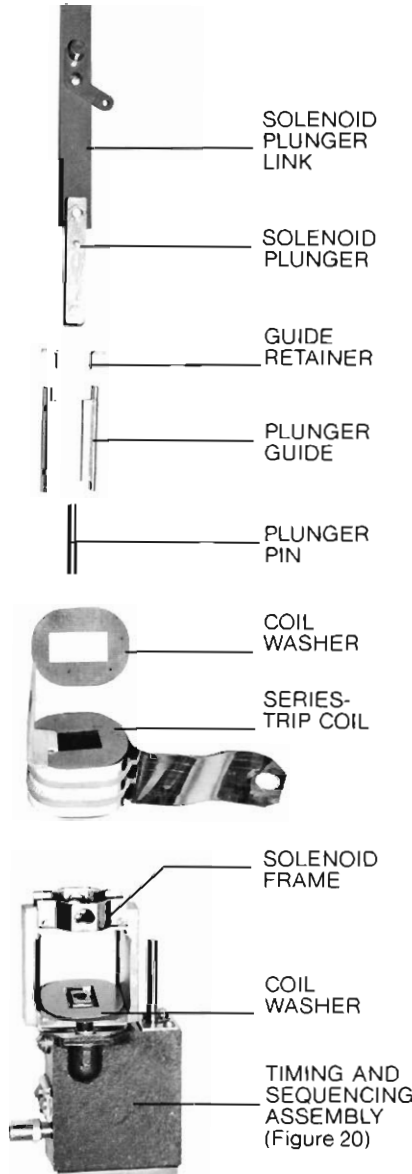

Figure 19.
6. To replace the series trip coil, disassemble the trip solenoid in the order shown in Figure 19.